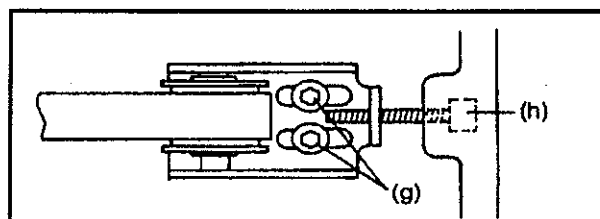

FIG.4
- (2) If amount of deflection G of drive belt C differs from that specified, loosen two retaining screws (g) and adjust the deflection using hex socket screw (h) (Fig.4).